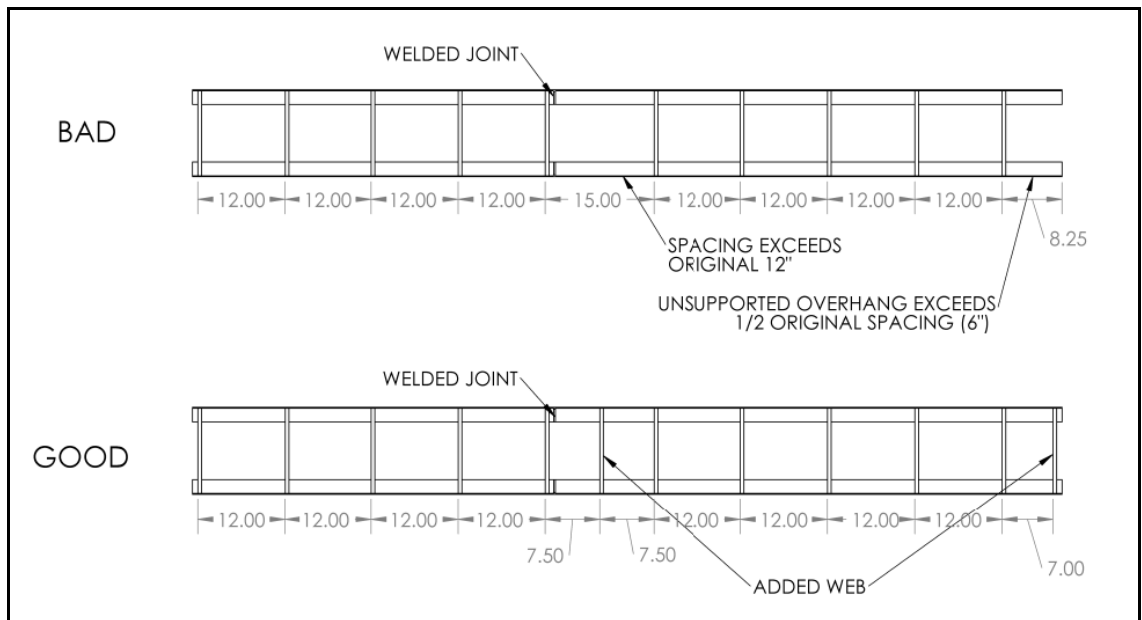

Figure 2.10
2. When cutting or welding truss support, ensure the unsupported chord length or web spacing does not exceed $\frac{1}{2}$ of the original web spacing. Weld additional web when necessary (Figure 2.10).